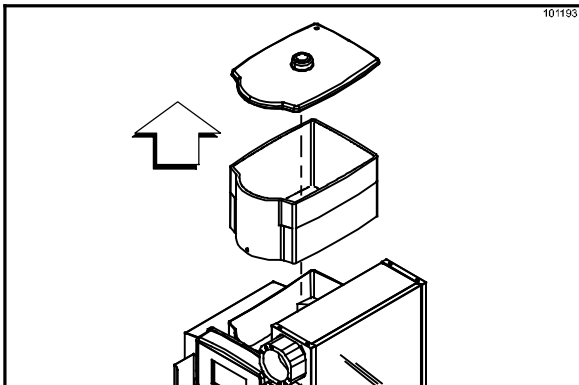

Figure 47
13. Remove the ice hopper and cover. Take them to the 3-compartment sink for cleaning. (See Figure 47.)